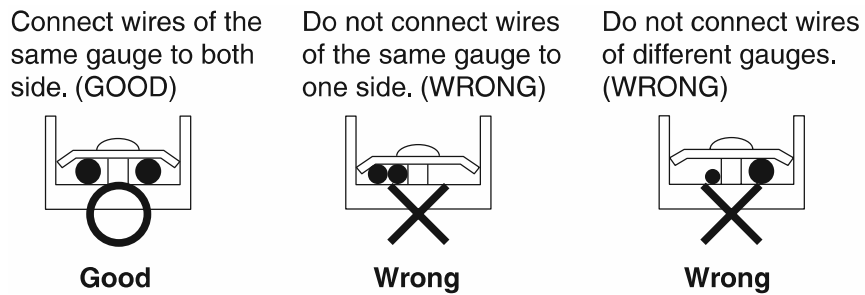

Fig.15
- Do not connect wires of different gauge to the same power supply terminal. (Looseness in the connection may cause overheating.) (Refer to Fig.15)
- When connecting wires of the same gauge, connect them according to. (Refer to Fig.15)